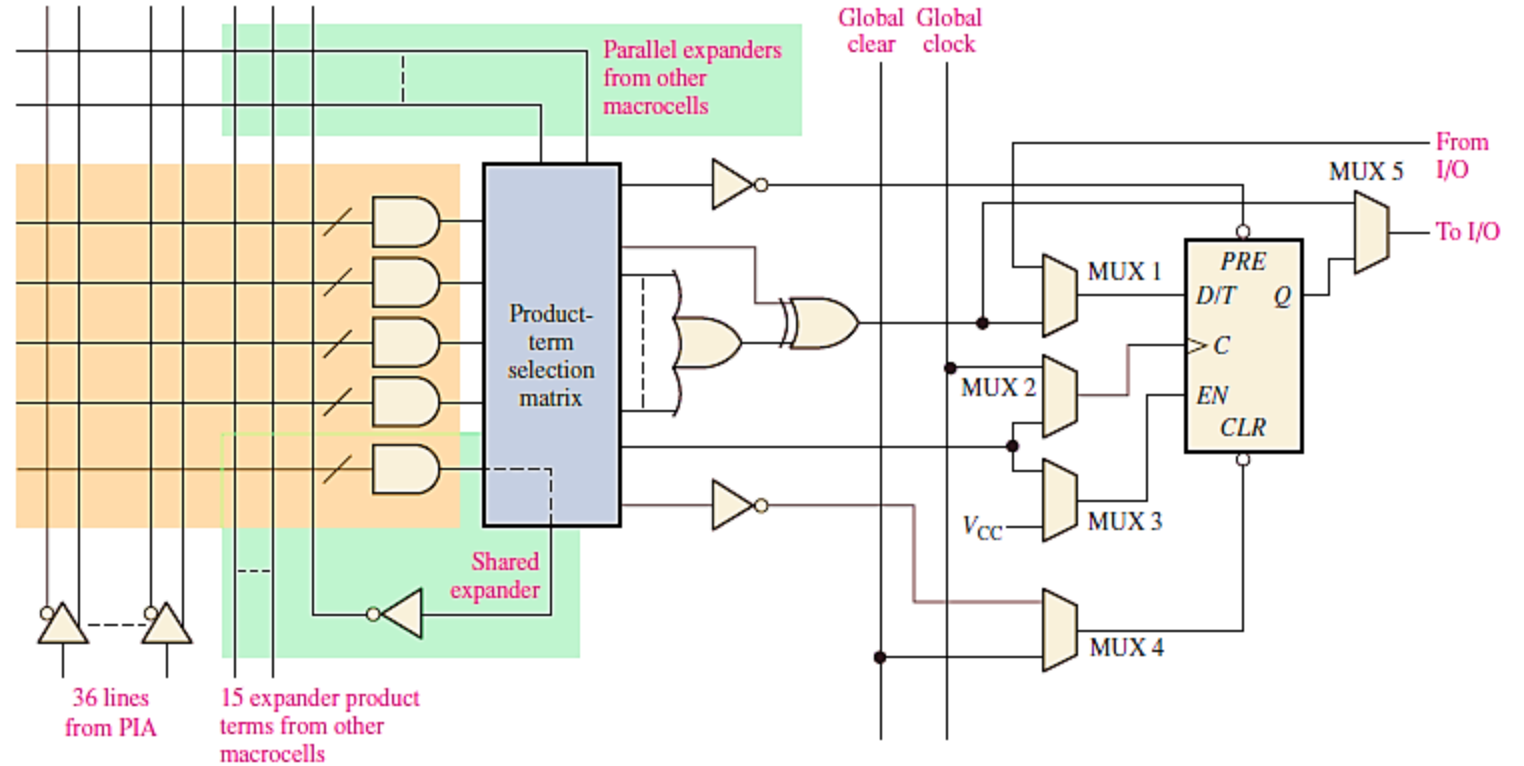

FIGURE 6 A CPLD macrocell.
- Figure 6 shows a complete macrocell including the flip-flop (register). The XOR gate provides for complementing the SOP function from the OR gate to produce a function in POS form.